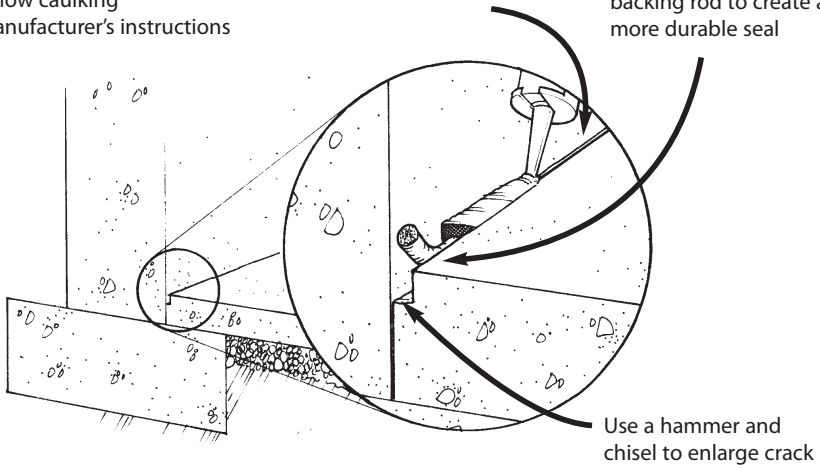

Figure 3 ↑
- Sealing the basement floor/foundation wall expansion joint. There are several options for sealing this potential radon entry point. Note that proper preparation of surfaces to be caulked is critical to obtain an effective, long-lasting seal. (see figure 3, page 21)